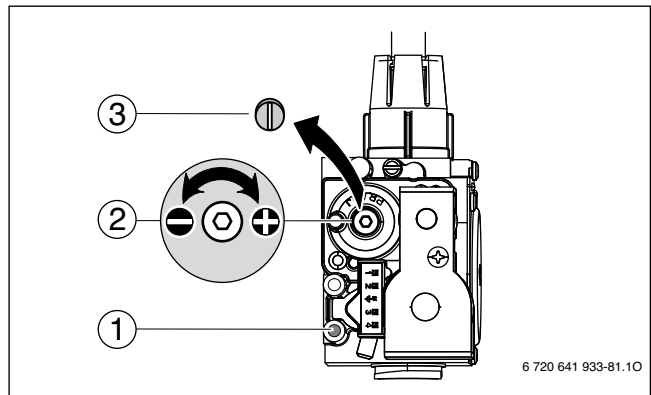

Fig. 80 Set CO2 or O2 level for minimum nominal output
- ▶ Remove the sealed screw (→ Fig. 80, [3]) from gas valve adjustment screw (→ Fig. 80, [2]) and set CO2 or O2 level for minimum nominal output.
- ▶ Reinstall the screw (→ Fig. 80, [3]) to cover the gas valve adjustment screw.
- ▶ Loosen the screw in the test port for gas inlet pressure (→ Fig. 80, [1]) and connect a pressure gauge (→ Fig. 82).